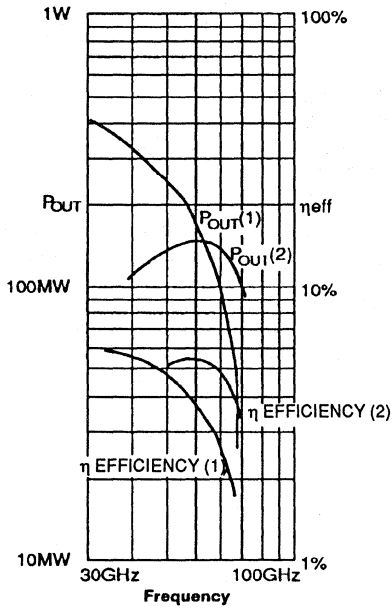

Fig.3a Variation of Power and Frequency for: (1) DC1276T and (2) DC1277 Series.
7. Typical variations of power, P_{OUT} and efficiency against operating frequency are shown in Figures 3a. and 3b.